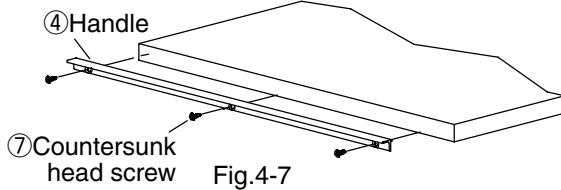

Fig.4-7
- [5.] Fasten door handle ④ facing towards the outside with screw ⑦ (Fig. 4-7, Fig. 4-9)